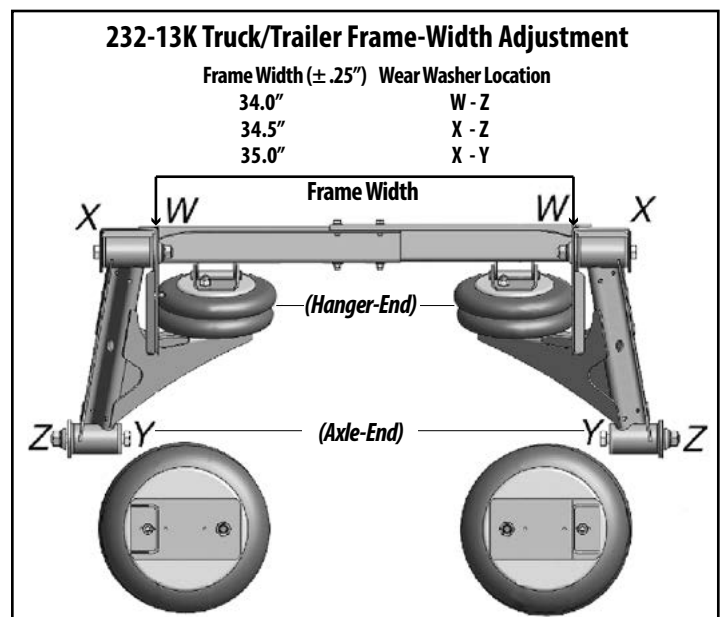

Figure 4. Install wear washers at marked locations to obtain proper suspension alignment.
- Count the number of wear washers on each side of the torque rod assemblies. The total number of wear washers on each side varies according to the preset frame-width (Figure 4).
- Hanger-End Torque Rod Assembly - Press inner sleeve into the installed bushing. Center the sleeve so that both ends extend slightly past the sides of the bushing/wear washer. Assemble the pivot connection with wear washer on appropriate side of the bushing (Figure 4).
- Axle-End Torque Rod Assembly - Press inner sleeve into the installed bushing. Center the sleeve so that both ends extend slightly past the sides of the bushing. Assemble the pivot connection with wear washer on appropriate side of the bushing (Figure 4).